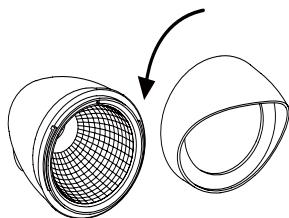

FIG. 2a
- Turn the lampshade anti-clockwise to take off the lampshade (FIG. 2a).